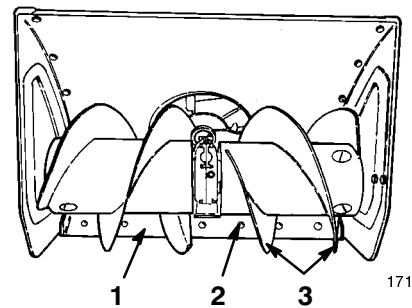

Figure 35
5. Loosen the carriage screws that secure the scraper to the auger housing (Fig. 35).
6. Support the **auger blades** (Fig. 35) so that they are *at least 1/8 to 1/4 inch (3 to 6 mm) off the ground.*